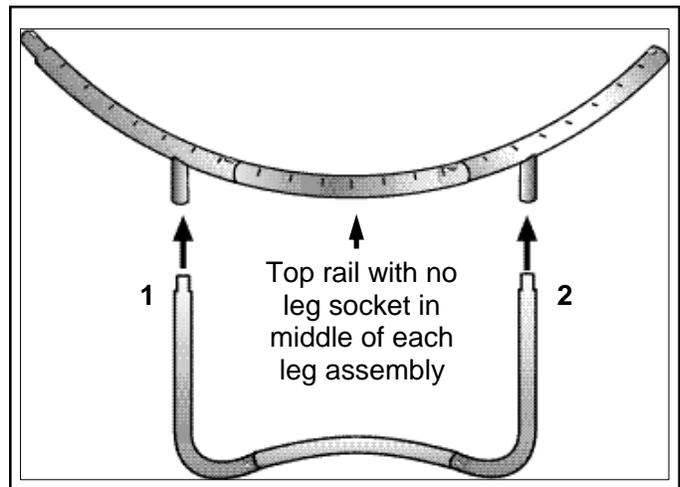

FIGURE 4
At this point, you may need someone to assist you with the assembly. Before performing this step, orient each leg assembly so that the snap buttons at the top of each end face in towards the center of the trampoline (if applicable). As one person lifts one side of the trampoline ring, another should lift a **leg assembly** to a vertical position and insert one end into a socket on the ring (see Figure 4). With one end installed, install the other end of the leg assembly into the appropriate leg socket. For ease of assembly, the first end should be about 1/2 inch into the socket when installing second end. Snap legs into place (if applicable).
**Note:** Each leg assembly should have a top rail piece with no leg sockets in the middle of its two vertical leg pieces (see Figure 4). Bolt heads of the leg assemblies should be facing the outside of the trampoline. Repeat installation of leg assembly on the opposite side of the trampoline, then at the two remaining locations.